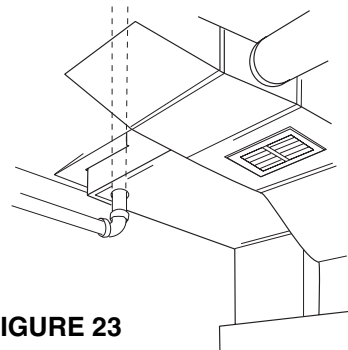

FIGURE 23
**Cold-Air Return.** A cold-air return often provides a straight run from basement to other levels of the house. The ductwork is easily cut for access. Seal around the tube when completing the installation. See Figure 23.